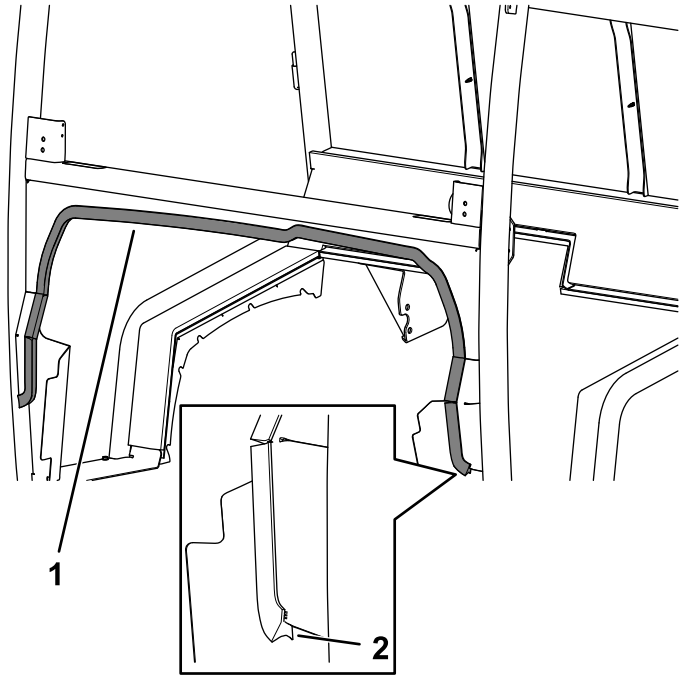

Figure 30
4. Install the lower dash seal to the cab (Figure 30).
Ensure that you install the seal with longer lip to the front (Figure 30).